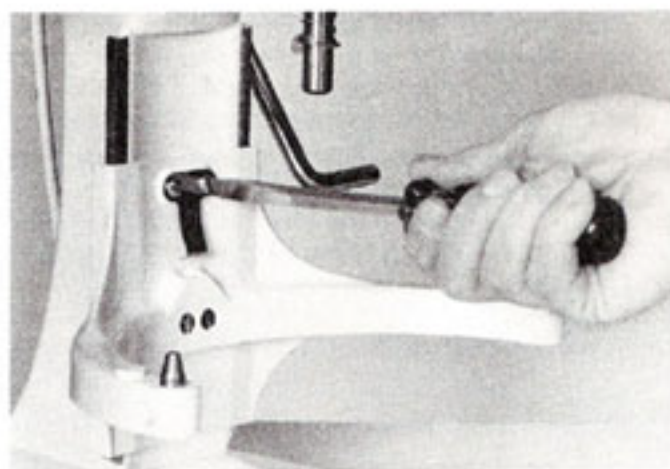

Fig. 97
- L. The bowl spring latch must be installed to complete the repairs to the bowl support. The function of this latch is to hold down the rear of the bowl. Hold latch with bent spring and insert the two #10-24 x  $\frac{1}{4}$ " round head screws into the column and turn the screws in tight (Fig. 97).